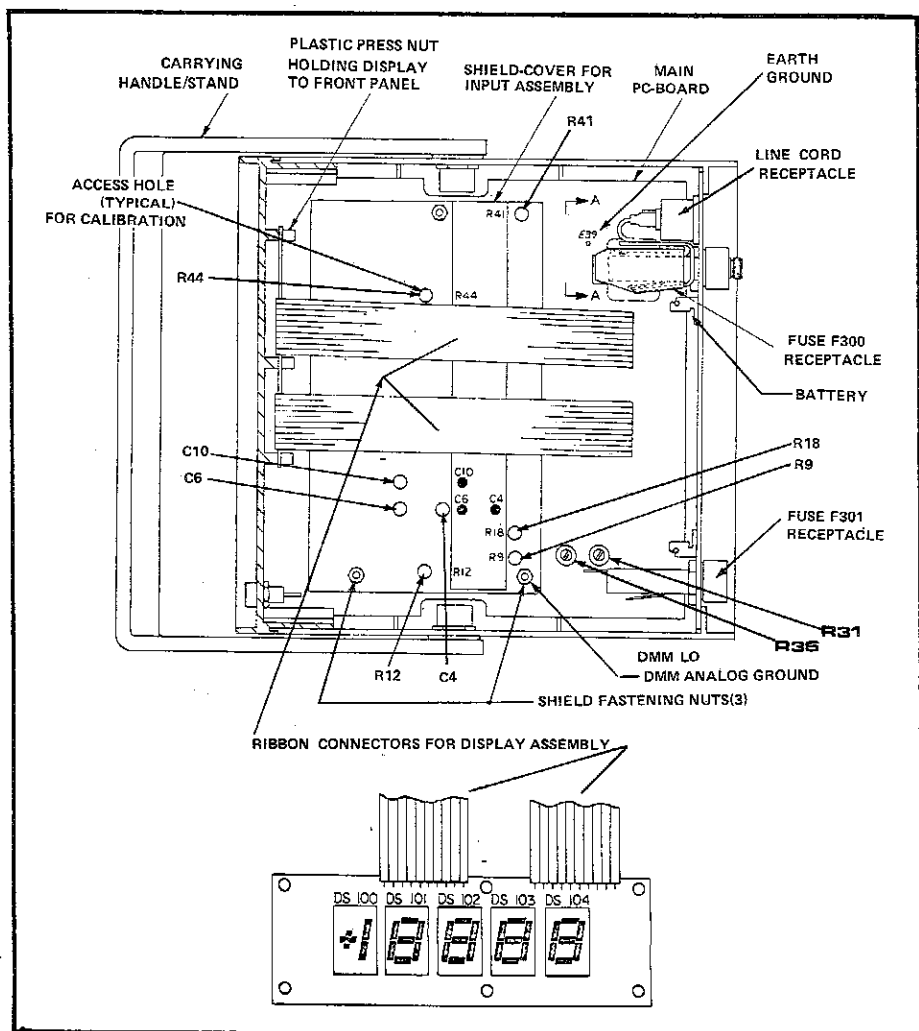

Figure 3-1
- a. The adjustments to calibrate Model 2480/2480R DMM are accessible through access holes in the shield after removing the top cover of the case. Table 3-1 identifies the adjustments and their function. To remove the cover, remove the two top screws in the back plate, lift the top rearward from the front bezel, and slide out. Figure 3-1 indicates the major assemblies and points out the adjusting components listed in Table 3-1. Their reference designators are indicated on the top of the analog shield.